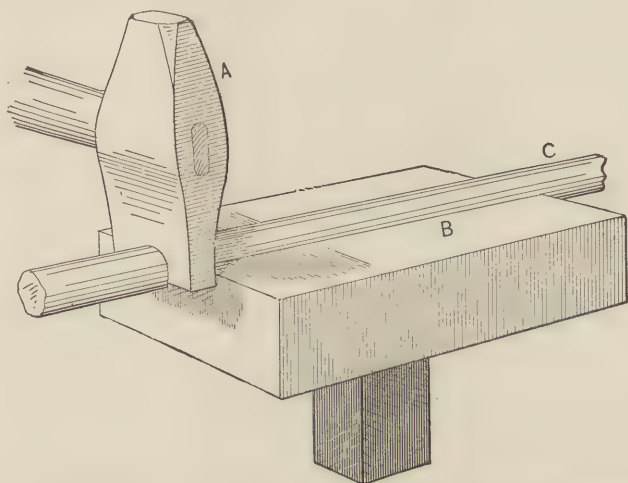

FIG. 159.—SHOWING THE METHOD OF USING THE TOOL MARKED AT NO. 10, IN FIG. 150.
• In Fig. 159 a tool of this kind is shown with the iron in position ready to cut. *A* is the top tool, *B* is the bottom swage, and *C* is the round iron to be cut off.